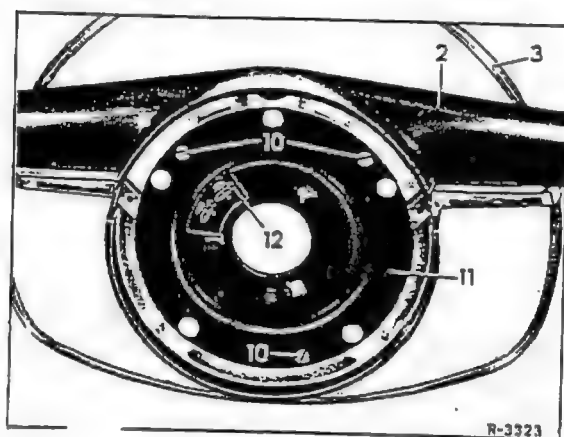

Fig. 46-2/7
7. Remove lock ring (9), then slip ring (7) from the hub of the steering column shock-absorber (6) (Fig. 46-2/8).